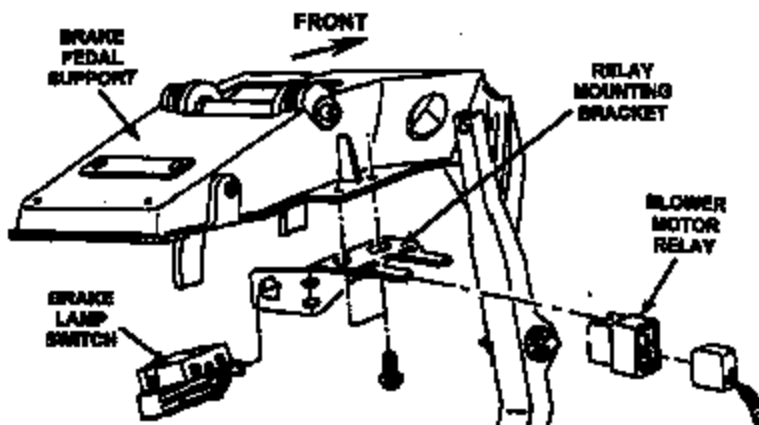

Figure 1
1. Inspect the brake pedal support bracket for the presence of a blower motor relay attached to the brake lamp switch bracket (Figure 1) or locate a blower motor relay that is secured near the brake pedal bracket with a tie strap.